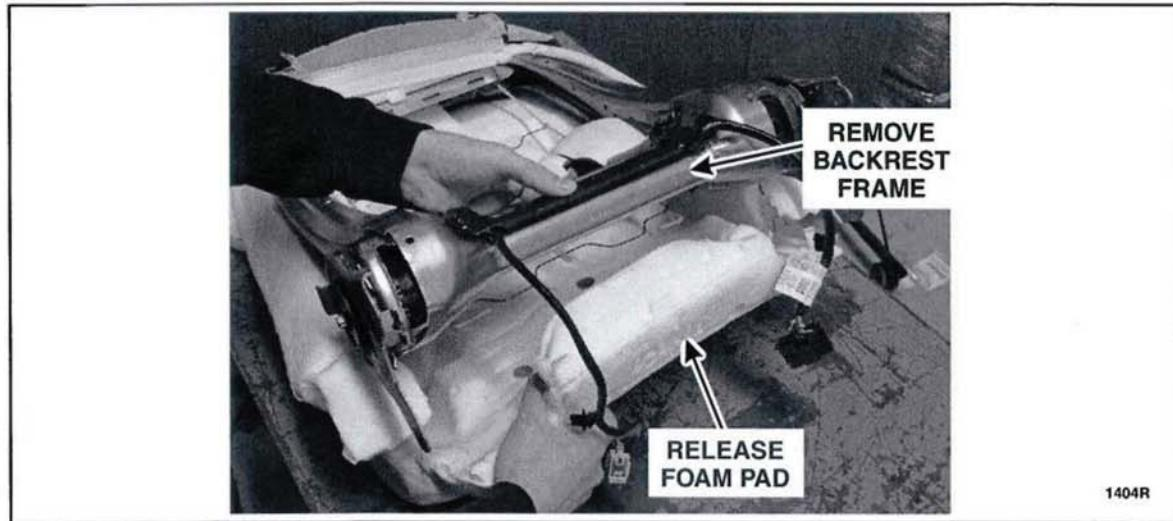

FIGURE 16
17. Release the foam pad from the backrest frame and remove the frame. See Figure 16.
4. Install the foam pad over the *new* seat backrest frame. See Figure 16.